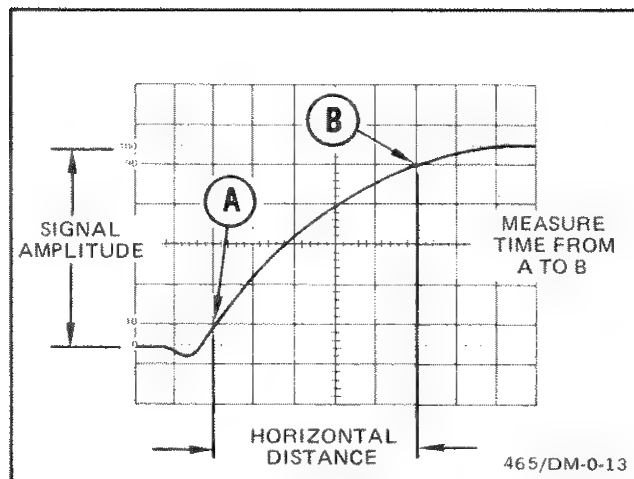

Fig. 19. Risetime.
Set the TIME/DIV switch for a single-event display with the risetime spread horizontally as much as possible. Horizontally position the display so the 10% point on the waveform intersects the second vertical graticule line (see Fig. 19).
**EXAMPLE:** The horizontal distance between the 10% and 90% points is 5 divisions (see Fig. 19) and the TIME/DIV switch is set to 1  $\mu$ s.